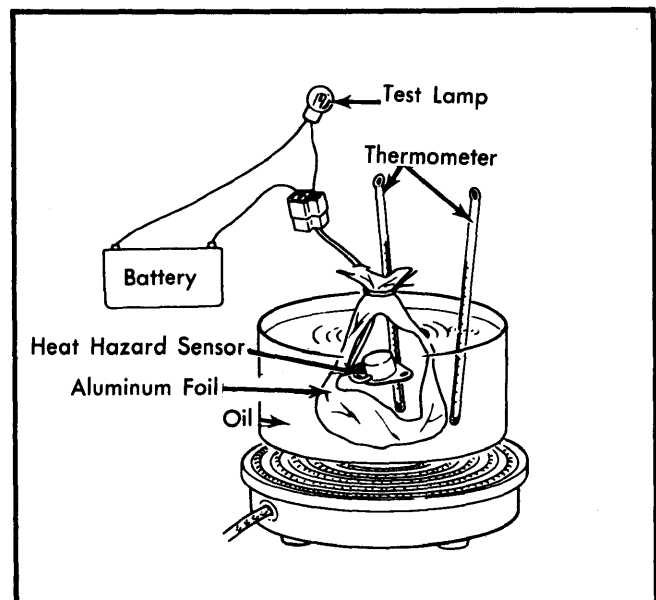

Fig. 6 Testing Heat Hazard Sensor
2) If warning light does not respond as outlined, remove and test sensor. Wrap sensor and a thermometer in aluminum foil (electrical connector must be exposed for access). Place sensor and thermometer (wrapped in aluminum foil) in container filled with oil, place a second thermometer in container of oil. See Fig. 6. Connect a battery and test lamp to sensor connector. Test lamp should glow.